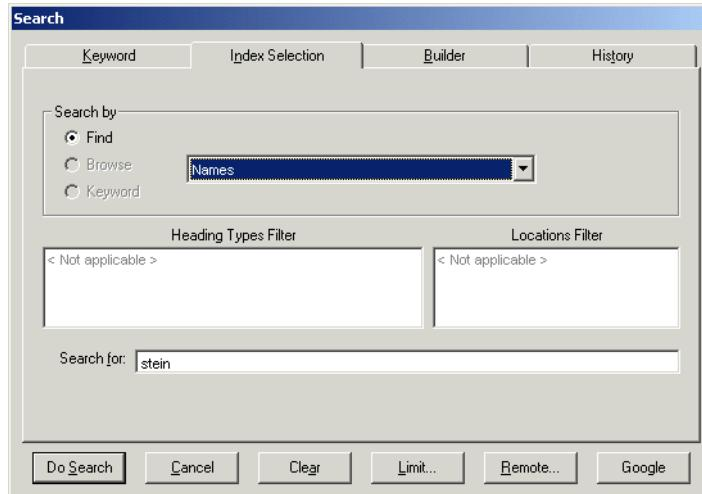

Figure 2-34. Completed Index Selection tab
7. Enter your search term in the **Search For** field (see Figure 2-34).